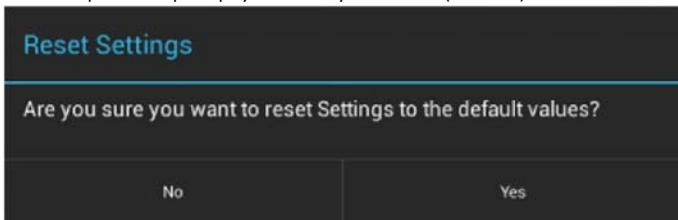

FIG. 112 Reset Settings prompt window
2. The panel will prompt you to verify this action (FIG. 112):